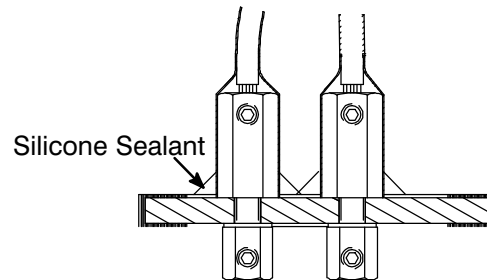
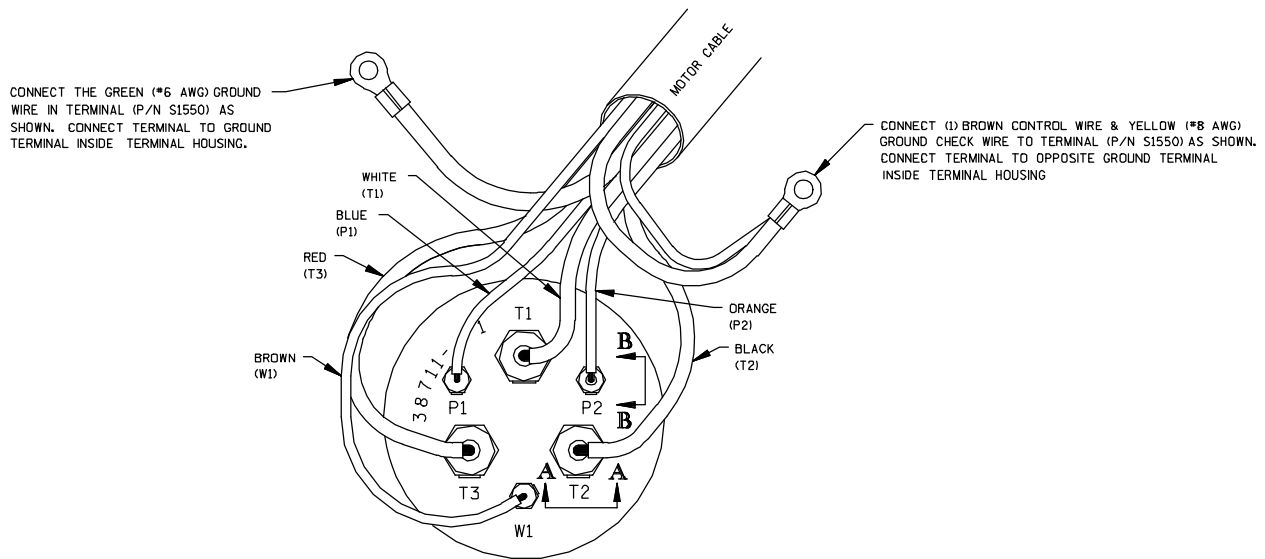

Figure 5. Silicone Adhesive Sealing
Figure 6. Terminal Housing Wiring Connections
Slide a length of heat-shrink tubing (10 and 27) up over each of the power cable leads, then connecting them to the appropriate terminals (12 and 24) as shown in Figure 5. Secure the leads with the set-screws (11 and 25).
See Figure 6 and check terminal locations. Apply a 1/4 to 3/8 in. (6,4 to 9,7 mm) thick layer (maximum) of silicone adhesive around each of the terminal posts as shown in Figure 5. Remove any adhesive from gasketed surfaces.
Position the lower terminal plate gasket (21) on the terminal plate (22). Refer to Figure 6. Attach the appropriate motor lead (T1, T2, T3, P1 and P2) to each terminal post (15 and 17) using the allen head setscrews (16 and 18).